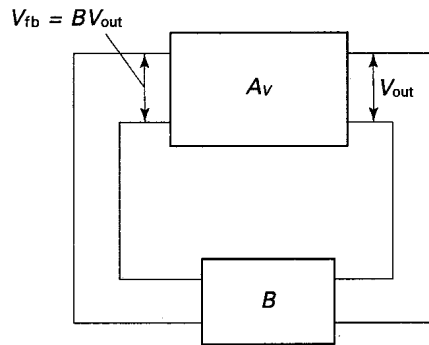

Fig. 2-20
- 2.1** Refer to the block diagram in Fig. 2-20. If  $A_V = 10$  and  $B = 0.02$ , will the circuit oscillate? If not, calculate the required value of  $A_V$ .
- 2.2** Refer to Fig. 2-20. If  $A_v = 150$  and  $B = 0.01$ , will the circuit oscillate?
- 2.3** Refer to Fig. 2-20. Assume  $B = -0.025$ . Calculate the value of  $A_v$  required to satisfy the Barkhausen criterion.
- 2.4 Assume in Fig. 2-20 that  $V_{\text{out}} = 24 \text{ V p-p}$  (volts peak-to-peak) and  $B = 0.01$ . Calculate  $A_V$  and  $V_{\text{in}}$ .